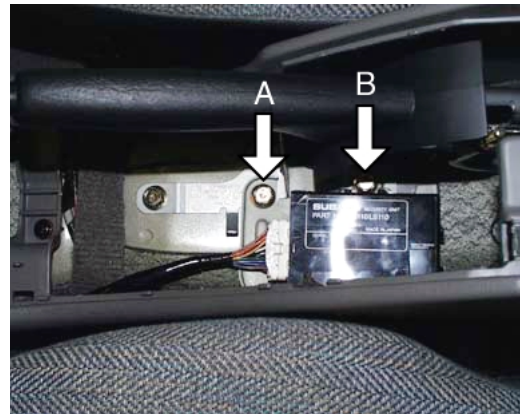

Figure 6
8. Install the security module onto the bolt indicated by the arrow “B” which was loosened in step 5, then tighten the bolts indicated by the arrows “A” and “B” to 13 ± 3.6 ft. lbs. Refer to Figure 6.